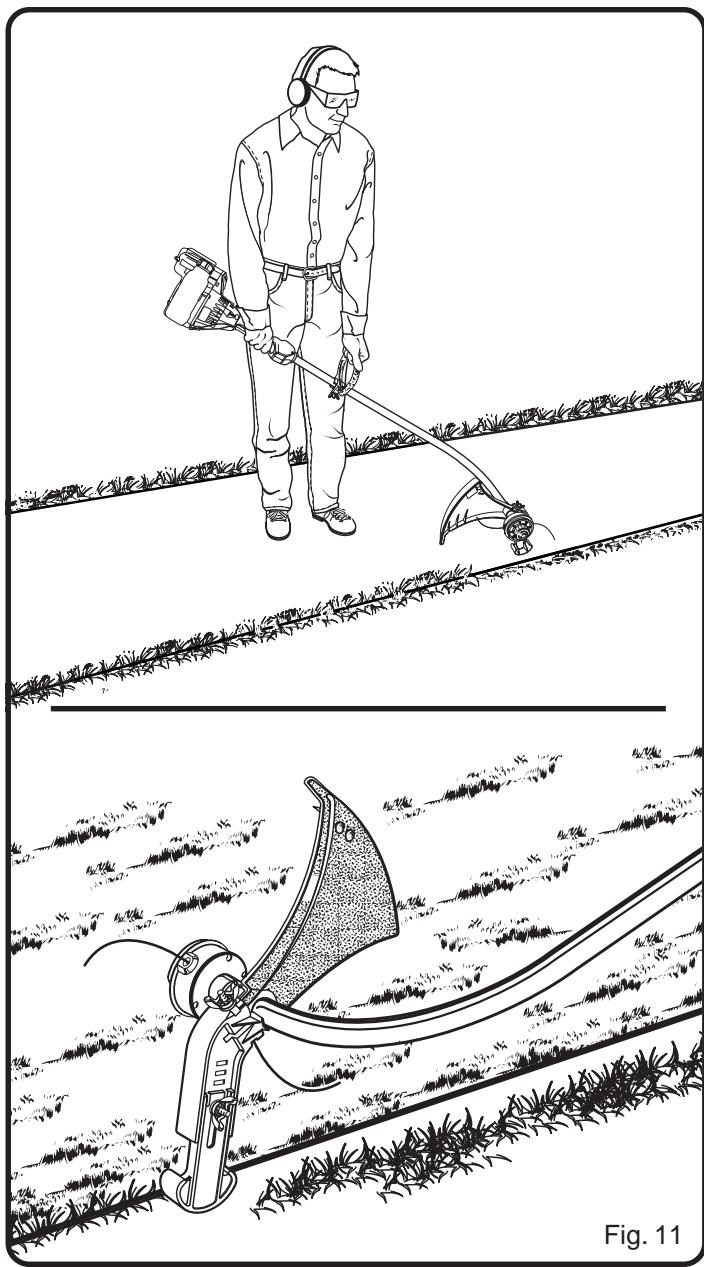

Fig. 11
- Be extremely careful when tilting the trimmer to use as an edger. The muffler, and the exhaust from the muffler get very hot during operation. Keep the muffler away from all body parts. See Figure 11.